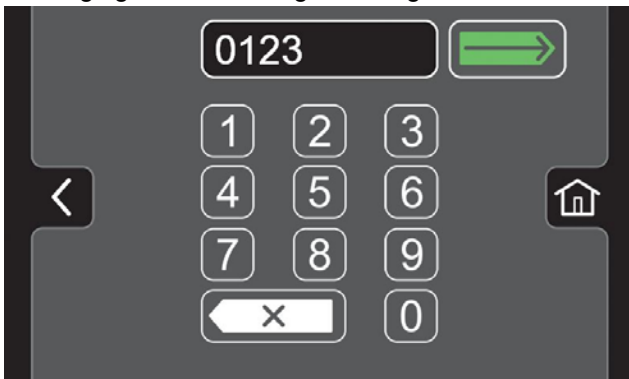

FIG. 173
- Assign a login code for the new user profile then press the green enter button (Figure 173). The new login code can be any combination of numbers ranging from 3 to 8 digits in length.